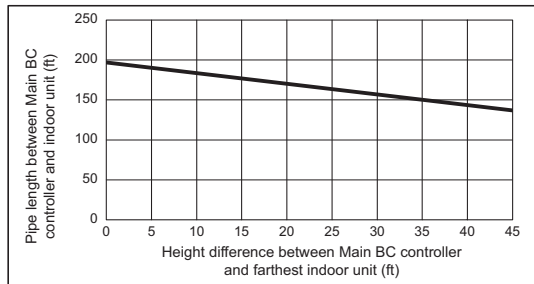

Fig. 2
*9. When the piping length or the vertical separation exceeds the limit specified in Fig. 2, connect a sub BC to the system.
When using indoor models M54 or larger, the restrictions shown in Fig. 2 cannot be exceeded.